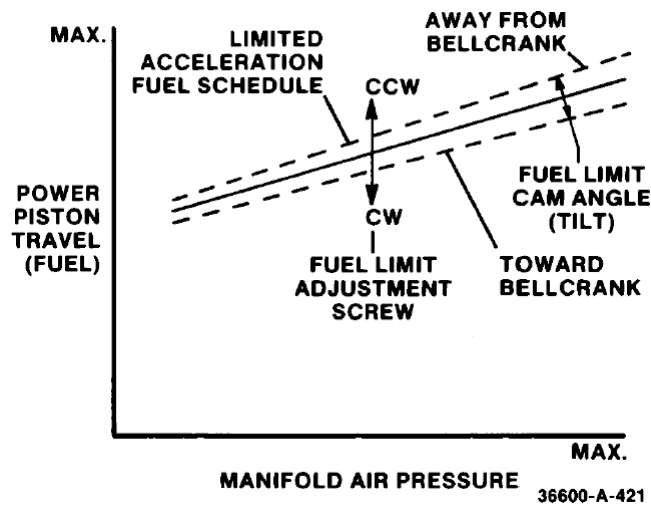

Figure 2-3. Typical Effects of Fuel Limit Adjustment Screw and Fuel Limit Cam Angle (Tilt) on Fuel Limiting Schedule
13. Turn fuel limit adjustment screw cw until hydraulic amplifier piston (53) lifts fuel limit lever (22) to a horizontal position.
14. Adjust position of fuel limit nut (21) on shutdown rod to obtain specified clearance (mid-point of tolerance range) between bottom of nut and top surface of fuel limit lever. Secure with jam nut (20).
18. If power piston travel is not within specified limits, loosen fuel limit cam locking screw (55) and tilt top of cam toward bell crank (47) to decrease power piston travel or away from bell crank to increase travel. Tighten locking screw and repeat step 17.
19. Following adjustment of the fuel limit cam, recheck and readjust the fuel limit adjustment screw as necessary. Repeat steps 11 through 18 until no further adjustment of the fuel limit adjustment screw or fuel limit cam is necessary. Figure 2-3 illustrates the interrelationship and individual effects of the fuel limit adjustment screw and fuel limit cam angle (tilt) on the fuel limiting schedule. An adjustment of the fuel limit adjustment screw raises (or lowers) the schedule a like amount over its entire length. An adjustment of the fuel limit cam alters the slope of the schedule with the greatest change occurring at the high end. The contour of the schedule is a reflection of the cam profile and as illustrated is linear (straight-line).